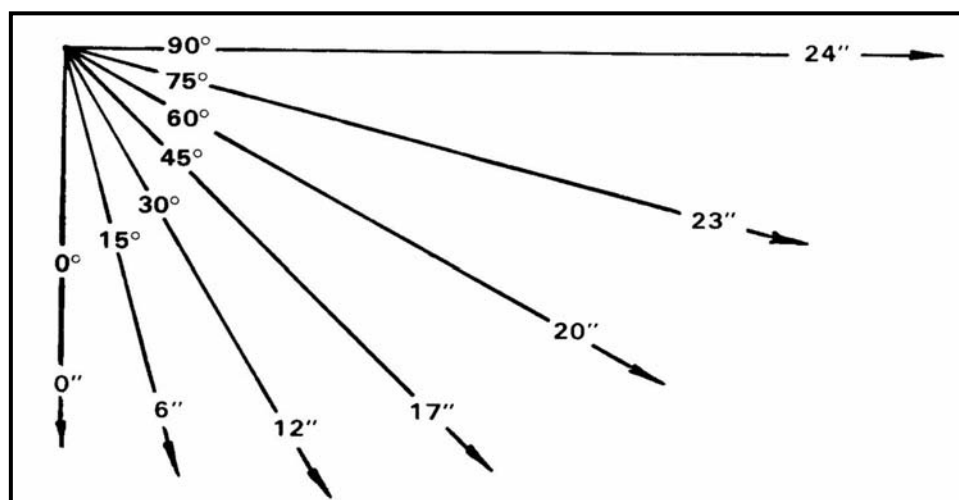

Figure 7-31. Target movement (distance) at various angles.
b. **Target Speed.** Figure 7-31 reflects the differences in lateral speed for various angles of target movement for a target traveling at 8 miles per hour at a distance of 150 meters from the firer. The angle of target movement is the angle between the target-firer line and the target's direction of movement. An 8-mile-per-hour target moves 24 inches during the bullet's flight time. If the target is moving on a 15-degree angle, it moves 6 inches (the equivalent of 2 miles per hour).
(1) A walking enemy soldier at 250 meters is hit dead center when he is moving at 40 degrees. Hits can be obtained if he is moving on any angle between 15 and 75 degrees. When he is running, a center hit is obtained when the target is on an angle of 18 degrees; misses occur when he exceeds an angle of 30 to 35 degrees.
(2) The information provided in Figure 7-31 and Table 7-1 (page 7-33) is designed to enhance instructor understanding so proper concepts are presented during instruction. For example, a target at 100 meters moving at 6 miles per hour receives a center hit when moving at 29 degrees. When moving at an angle less than 29 degrees, the bullet strikes somewhat in front of target center. When moving at an angle of more than 29 degrees, the bullet strikes somewhat behind target center.